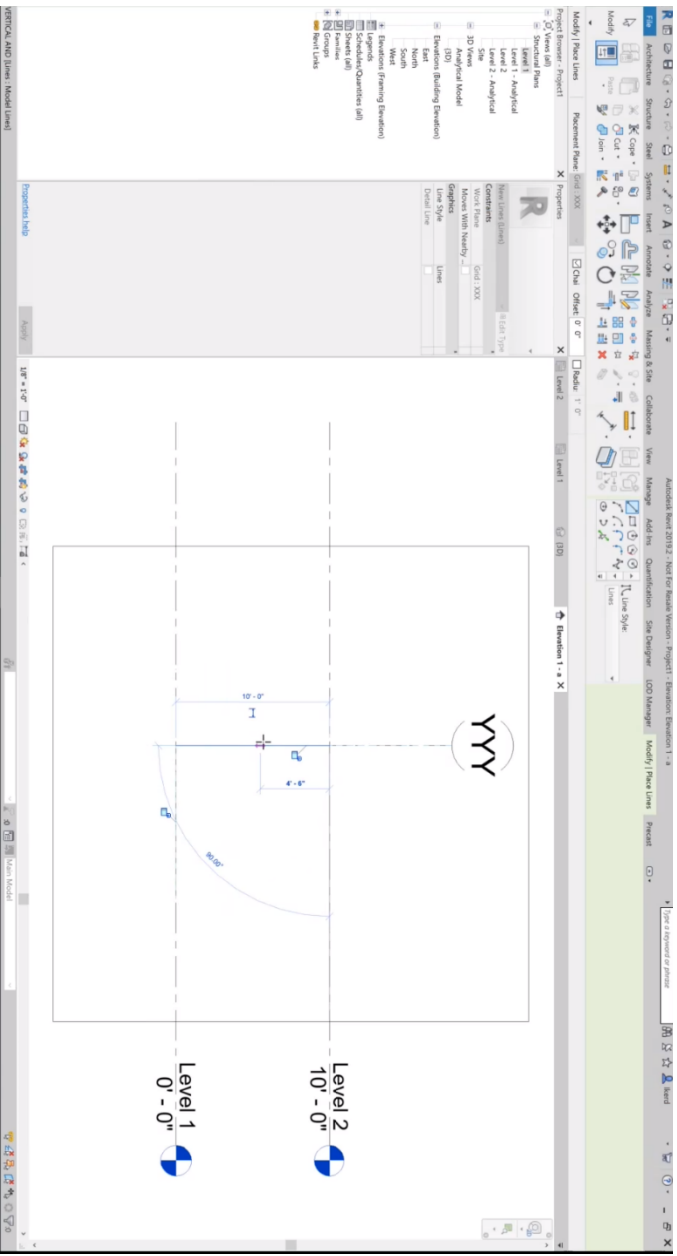

Figure 4
- h. Draw a 10' model line along the "YYY" gridline upward from Level 1 (Figure 4).